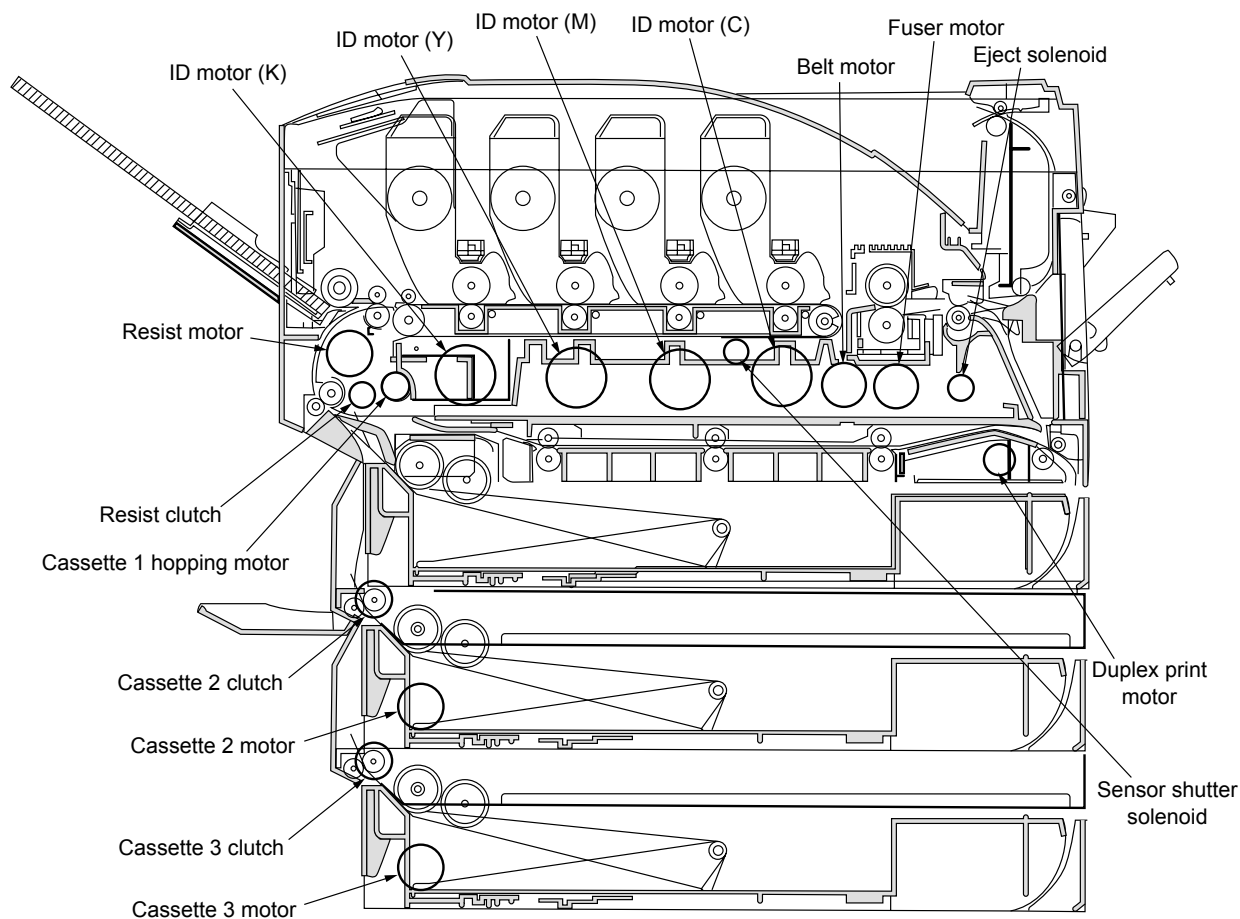

Figure 3-3
3. The test starts by pressing the ③ key. The name of the unit begins to blink and the corresponding unit drives for 10 seconds. (See Fig 3-3.)